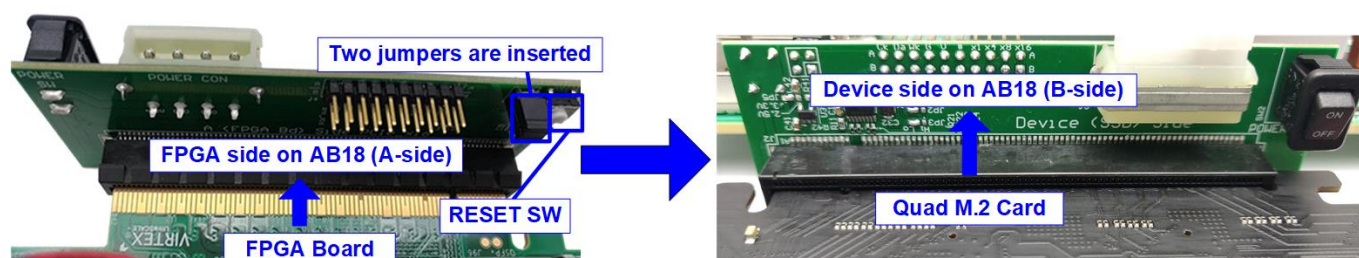

Figure 2-3 Connect Adapter board to Quad M.2 NVMe SSD Card and FPGA board
- 3) Confirm that two mini jumpers are inserted at J5 connector on AB18. After that, connect FPGA Side (A-side) on AB18 to PCIe connector on FPGA board and connect Quad M.2 NVMe SSD Card to device side (B-Side) on AB18, as shown in Figure 2-3.